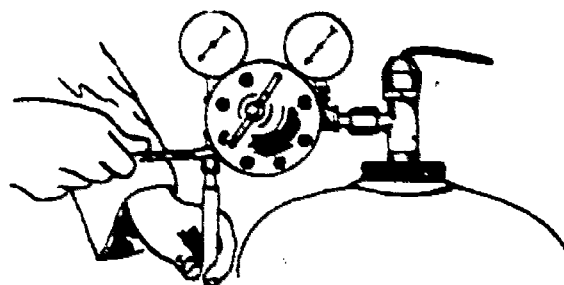

Figure 11. Attaching Hoses
7. Attach the oxygen and acetylene hoses to the outlets of their respective regulators (see figure 11).